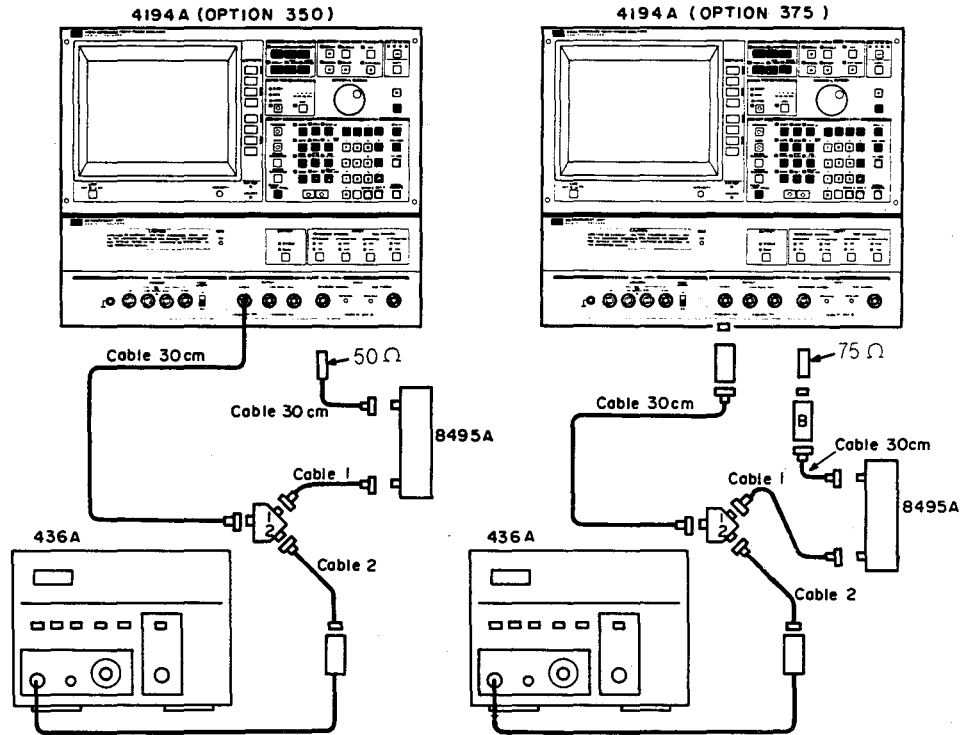

Figure 4-20. Amplitude Measurement Accuracy Test Setup 6
1. Connect the appropriate (50Ω or 75Ω) feedthrough termination to the REFERENCE CHANNEL as shown in Figure 4-20.